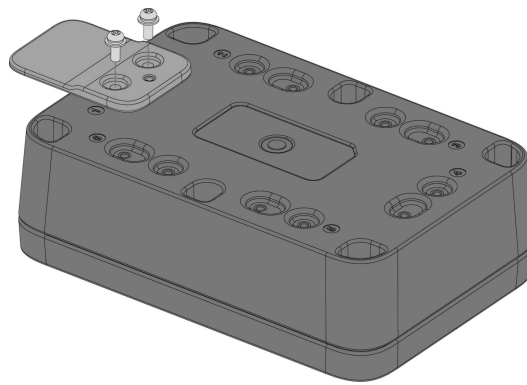

Figure 38: Fixing the label mount on the enclosure
2. Fix the label mount marked with the letter **I** on the WisBlock Unify Enclosure using two (2) pieces of M3*8 mm head screw with the washer. Place it on fixed position numbers **1 to 6** of enclosure, as shown in **Figure 38**.